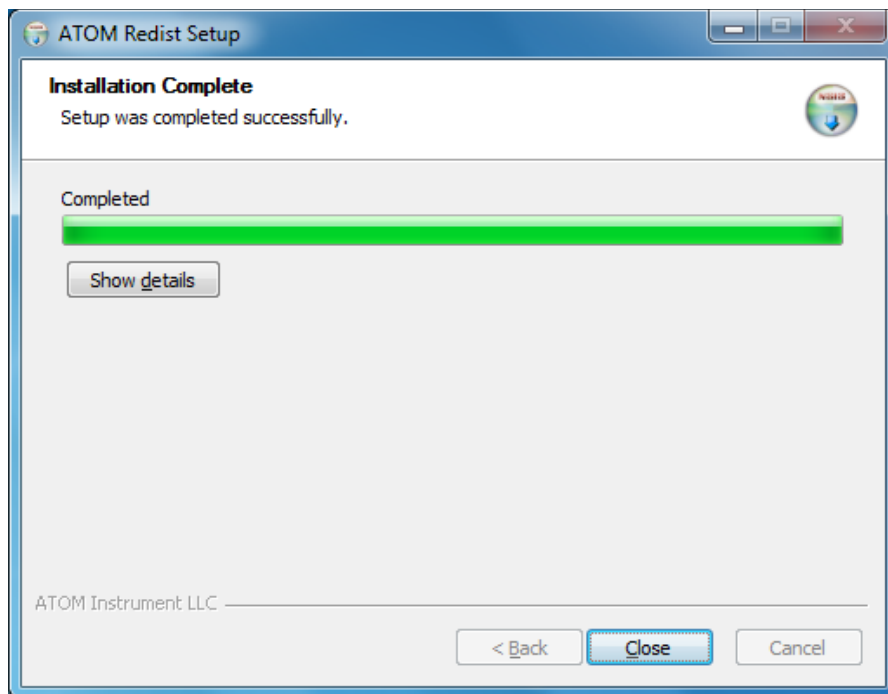

Figure 3.4
- 7. Click **Close** (Figure 3.4)